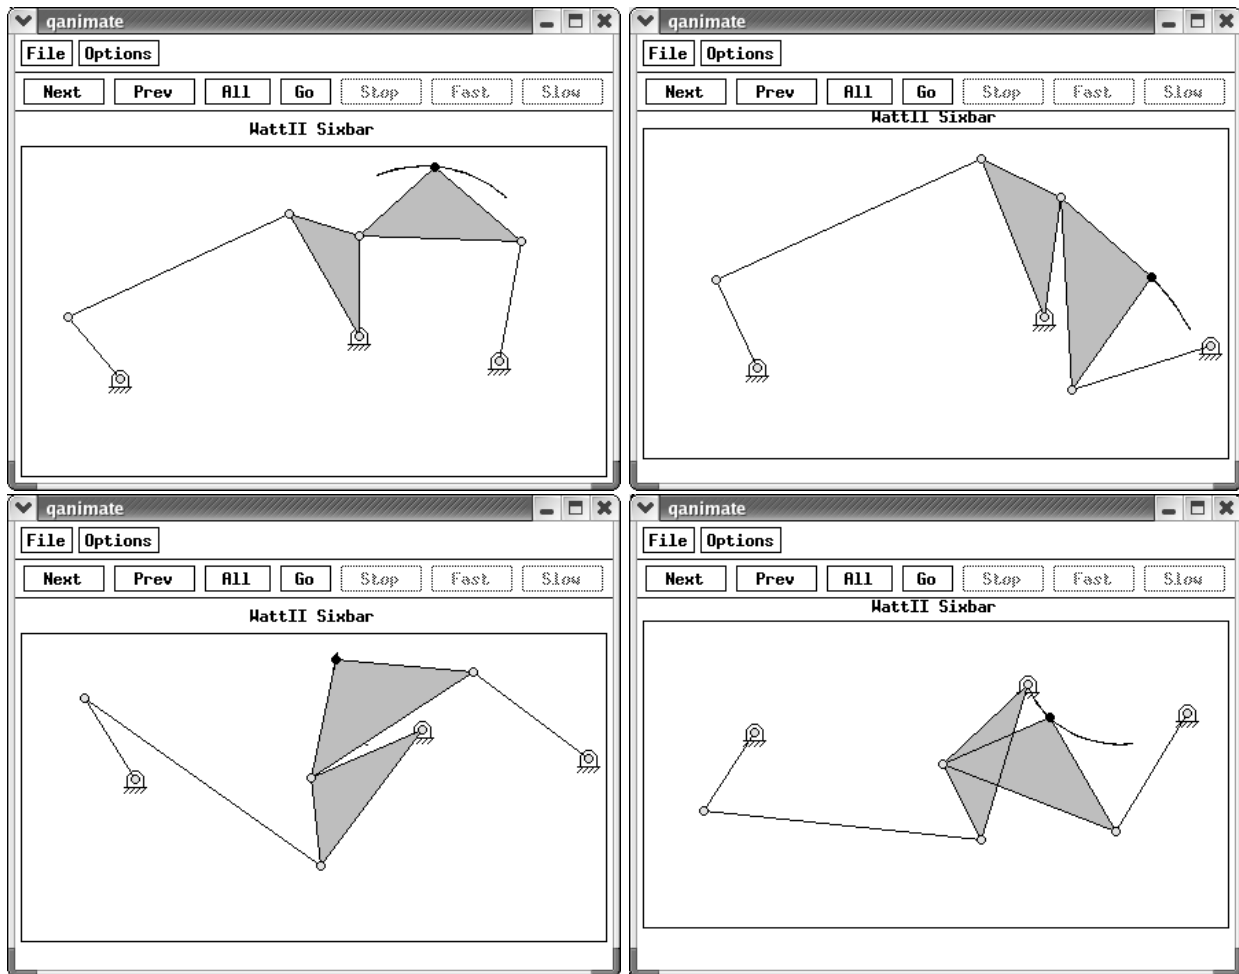

Figure 5.15: Output of Program 36.
Again, argument `branchnum` specifies the branch number of the Watt (II) sixbar linkage to animate. Program 36 is an example program that simulates the motion of the Watt (II) sixbar defined in previous problem statements. Snapshots of animation for the various branches are shown in Figure 5.15. Note that for
5.3. WATT SIX-BAR (II) LINKAGE